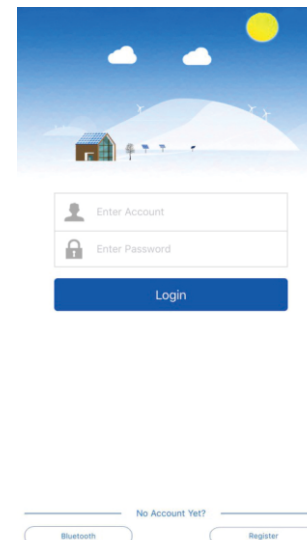

Fig.10
- ①. After scanning the code to download the photovoltaic APP, the user opens the APP and enters the login interface in Figure 10;